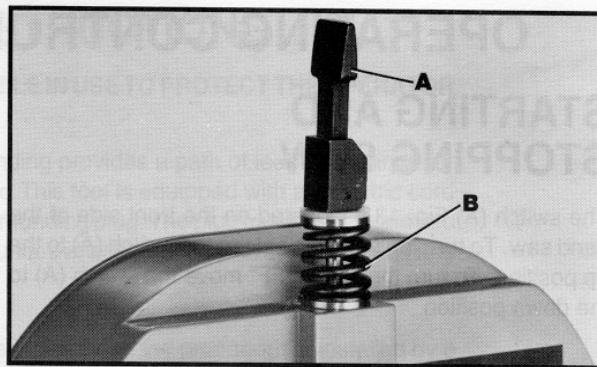

Fig. 17
1. After the desired blade is assembled to the two band saw wheels, lift up on tension lever (A) Fig. 17, as shown, and turn tension lever (A) clockwise until spring (B) begins to compress.
2. Turn tension lever (A) Fig. 17, one complete additional turn for 1/8" wide blades; two complete additional turns for 1/4" wide blades; and three complete additional turns for 3/8" wide blades.